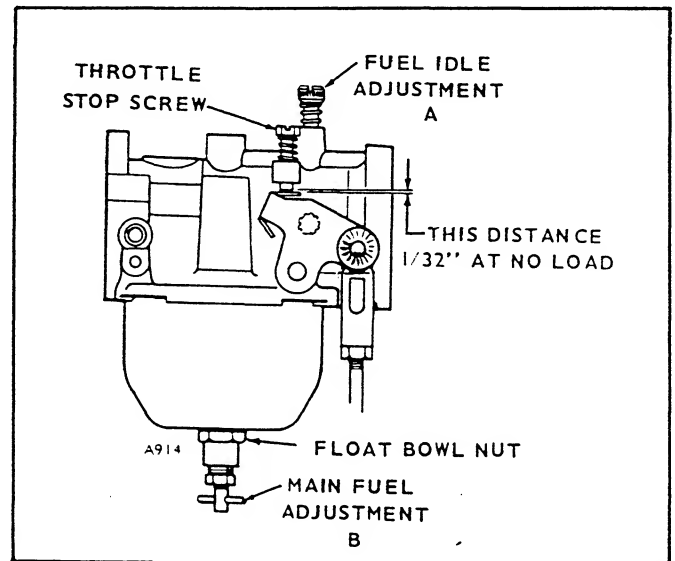

FIGURE 12. CARBURETOR ADJUSTMENTS
The carburetor (Figure 12) has a fuel idle adjustment (needle A) and a main fuel adjustment (needle B).
With the carburetor and governor adjusted, set the throttle stop screw, Figure 12, to allow 1/32 inch clearance to the stop pin with the engine operating at no load. This prevents excessive hunting when a large load is suddenly removed.
**Float Level Check:** If the carburetor adjustment fails to provide satisfactory operation, check the float level as follows referring to Figures 12 and 13 after removing the carburetor.